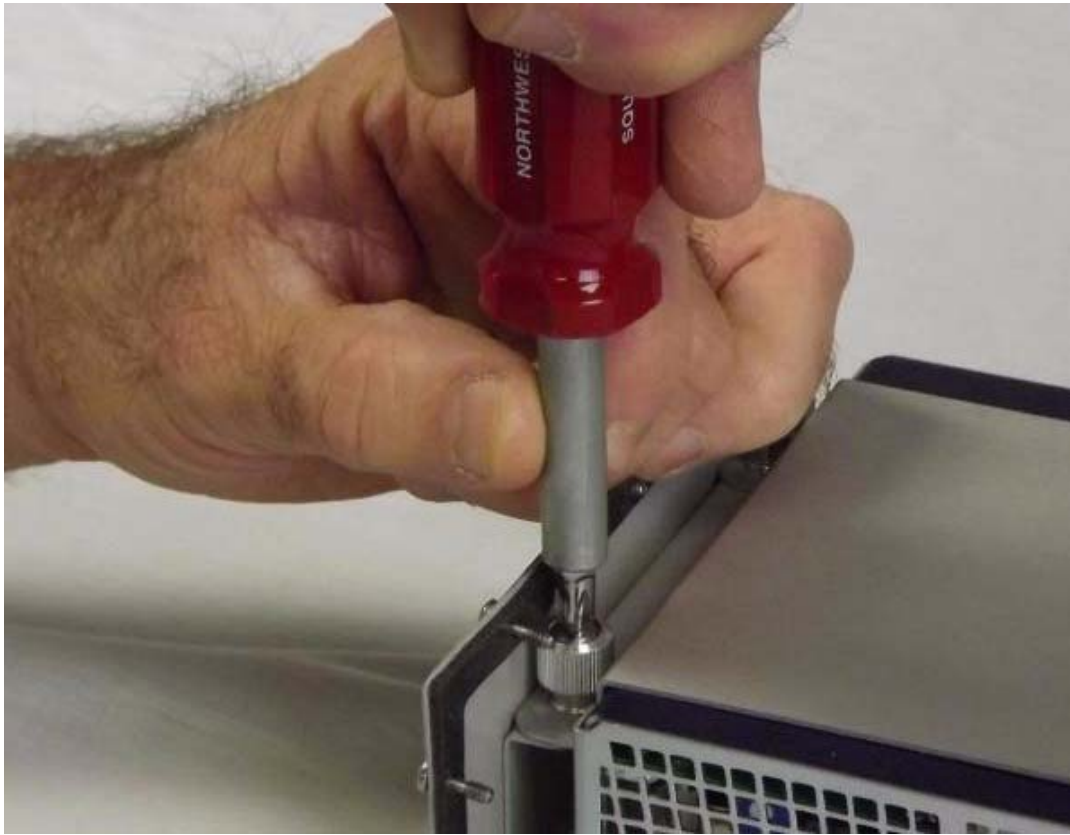

Figure 7.5 Loosen the Mounting Screws
5. Refer to Figure 7.5. Loosen the four (4) mounting bracket screws and remove the cover plate. The screws stay captured on the mounting bracket.